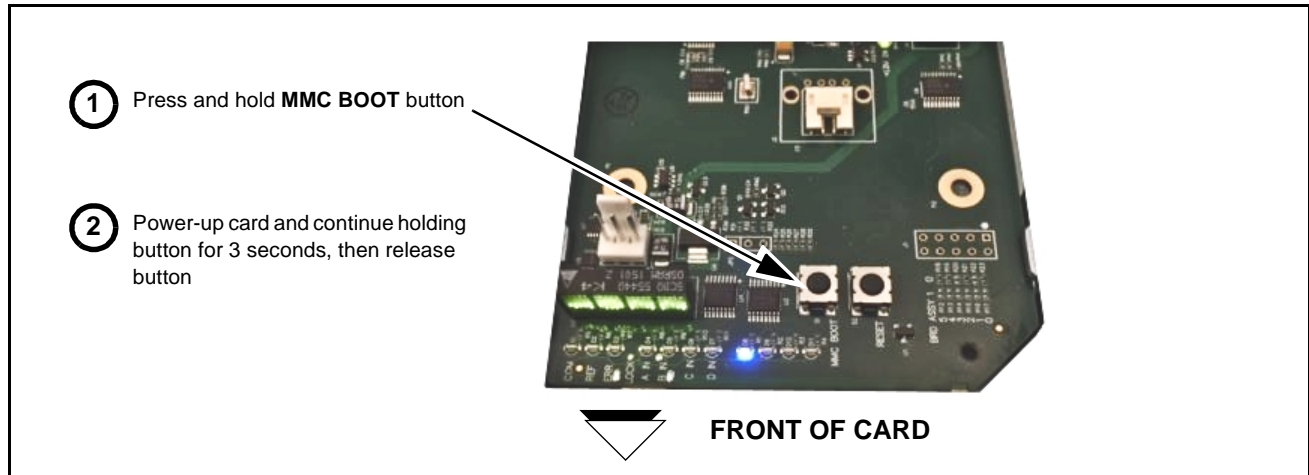

Figure 3-15 MMC Boot Button
2. (See Figure 3-15.) With card powered-down, locate the **MMC BOOT** button on the card. Proceed as shown in picture.